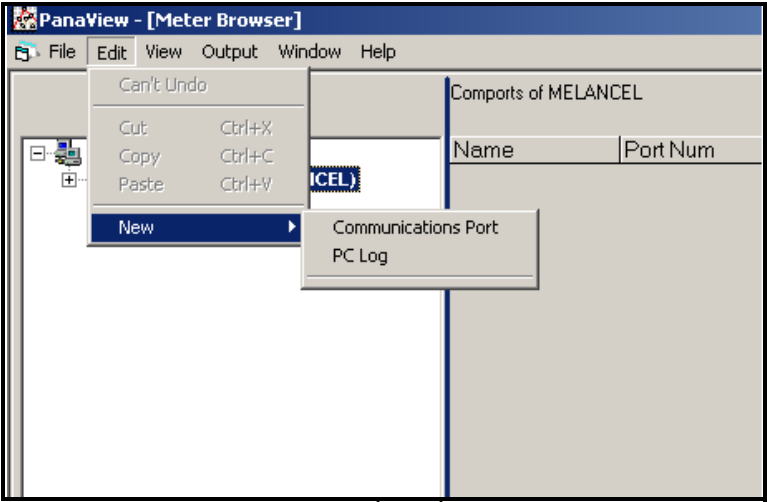
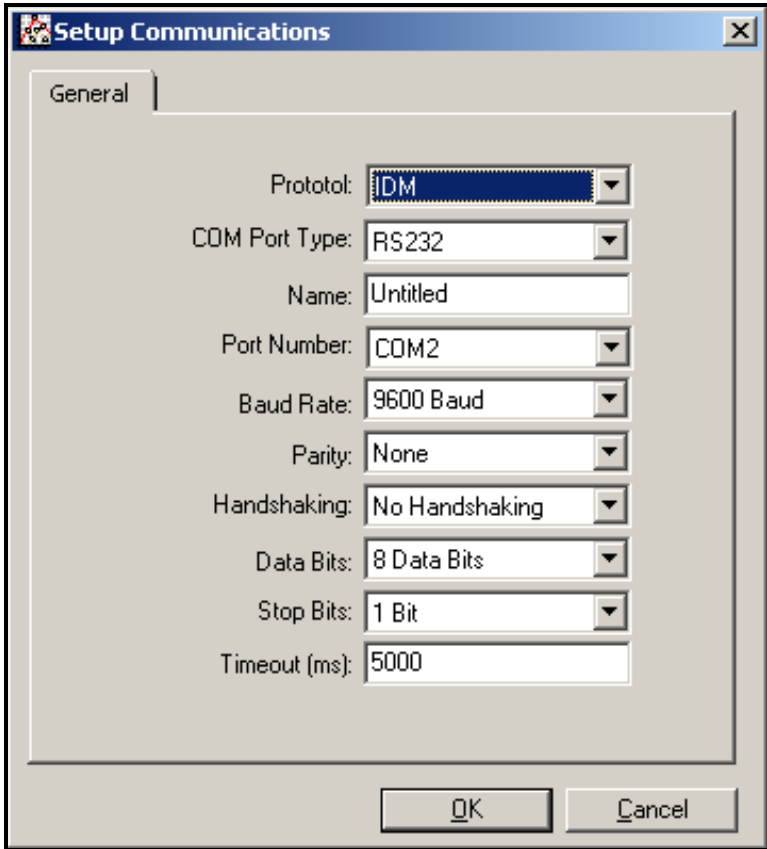

Figure 29: The Edit Menu
Figure 30: The Setup Communications Screen
3. Click on the “*New*” menu option to select it, and a submenu opens with two choices on it (see Figure 29).
4. Click on the “*Communications Port*” option to select it (see Figure 29 on page 40). The dialog box shown in Figure 30 appears, with “*Untitled*” as the default “*Name*.”
The dialog box in Figure 30 permits the user to name the communication port (“*Comport*” is used for this example) and to set up all of its parameters.
5. After all of the communications port parameters have been set, click the [OK] button (see Figure 30 on page 41).